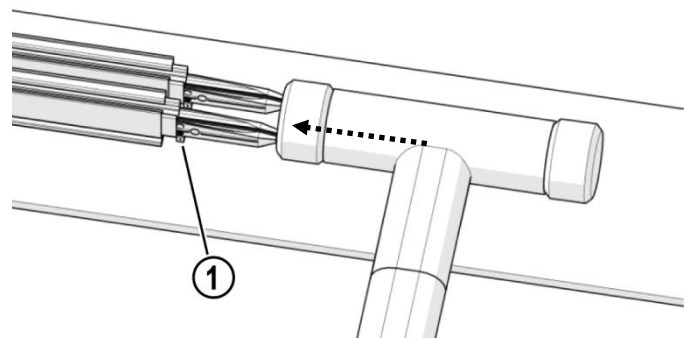
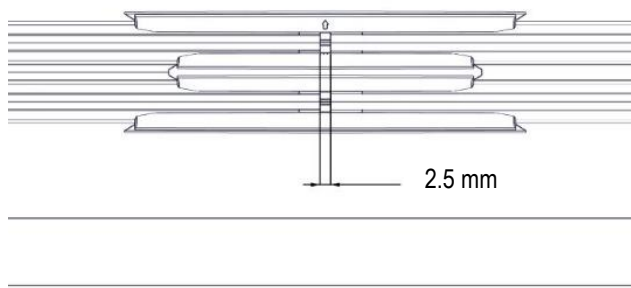

Fig. 34: Drive the connectors in up to the stop (1)
Fig. 39: Gap at connector
- The conductor bars must not be seamlessly connected to each other. Drive the conductor bar only up to the stop of the connector pins (see Fig. 34), leaving a gap of approx. 2.5 mm (see Fig. 39).